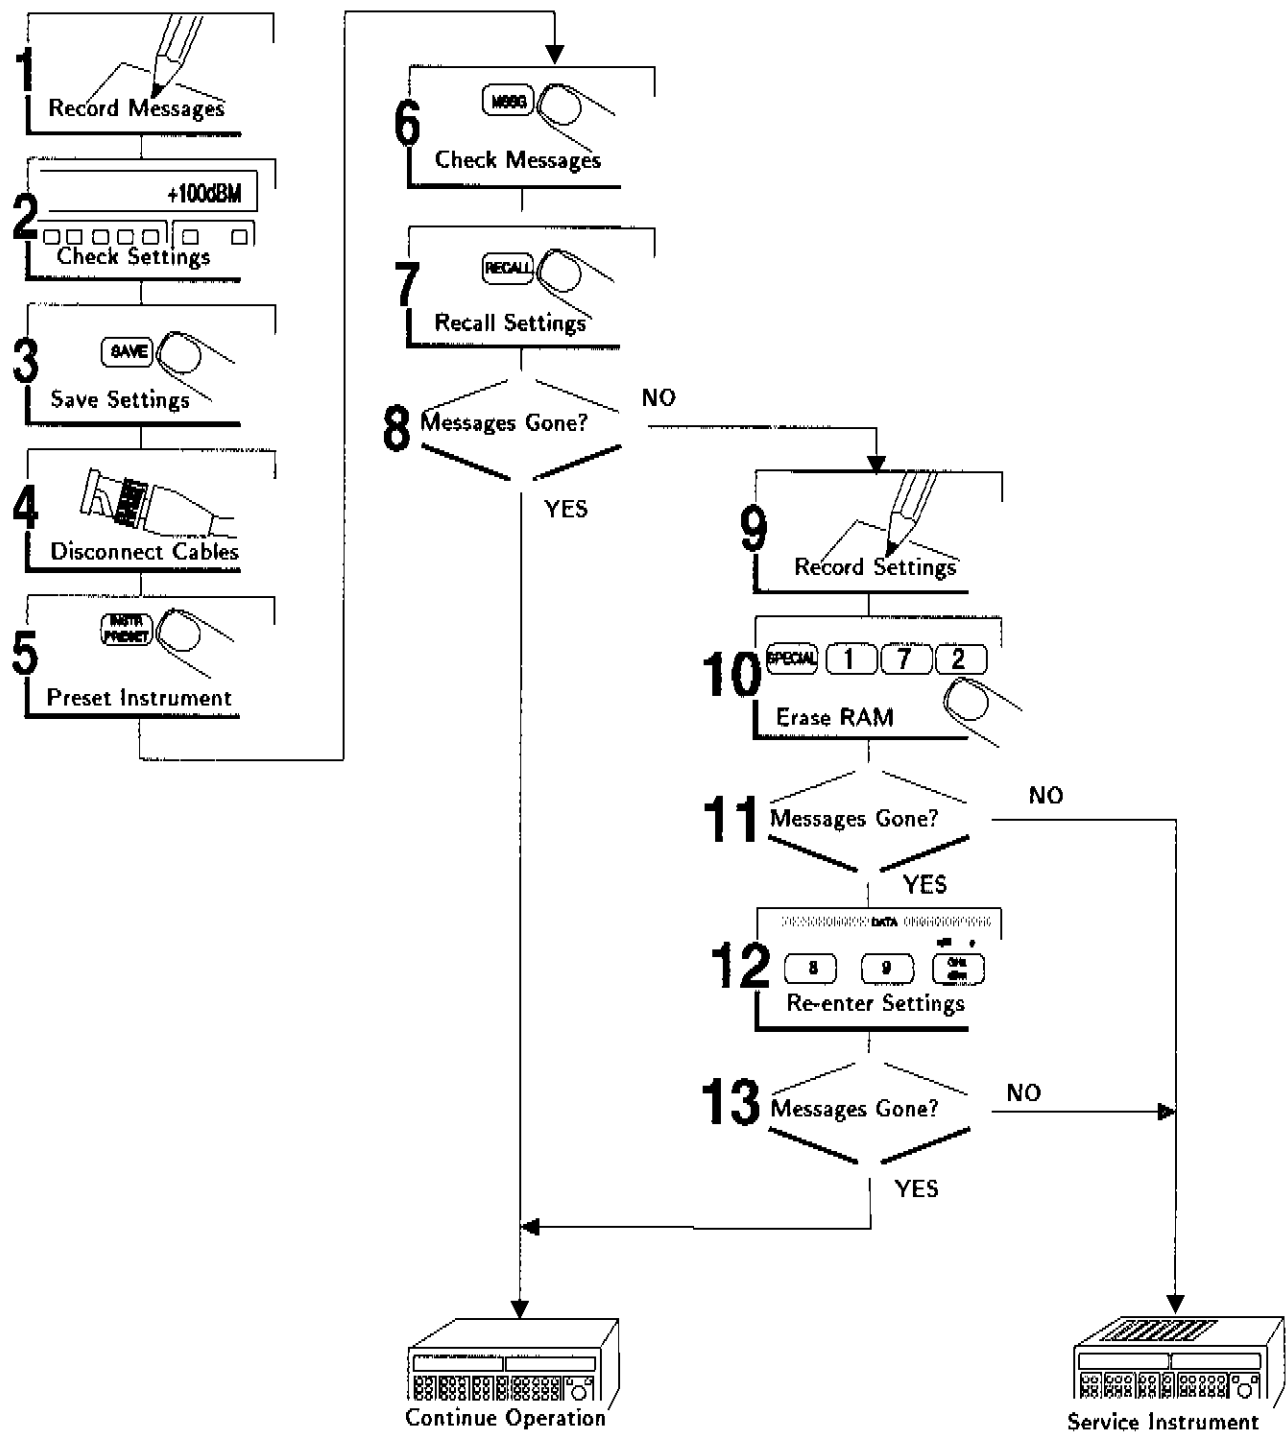

Figure 7-1. Corrective Action for Error Messages
| Hardware Failure 1  | A communications discriminator failure has been detected at power up, or detected as a result of a self-calibration or self-test. Refer to figure 7-1 for corrective action. |
| Hardware Failure 2  | A VCO failure has been detected at power up, or detected as a result of a self-calibration or self-test. Refer to figure 7-1 for corrective action.                          |
| Hardware Failure 3  | A Fractional-N failure has been detected at power up, or detected as a result of a self-calibration or self-test. Refer to figure 7-1 for corrective action.                 |
| Hardware Failure 4  | A modulation distribution failure has been detected at power up, or detected as a result of a self-calibration or self-test. Refer to figure 7-1 for corrective action.      |
| Hardware Failure 5  | An ALC failure has been detected at power up, or detected as a result of a self-calibration or self-test. Refer to figure 7-1 for corrective action.                         |
| Hardware Failure 6  | An attenuator failure has been detected at power up, or detected as a result of a self-calibration or self-test. Refer to figure 7-1 for corrective action.                  |
| Hardware Failure 7  | An audio source failure has been detected at power up, or detected as a result of a self-calibration or self-test. Refer to figure 7-1 for corrective action.                |
| Hardware Failure 8  | A reference failure has been detected at power up, or detected as a result of a self-calibration or self-test. Refer to figure 7-1 for corrective action.                    |
| Hardware Failure 9  | A doubler failure has been detected at power up, or detected as a result of a self-calibration or self-test. Refer to figure 7-1 for corrective action.                      |
| Hardware Failure 13 | A front panel failure has been detected at power up, or detected as a result of a self-calibration or self-test. Refer to figure 7-1 for corrective action.                  |
| Hardware Failure 14 | A power supply failure has been detected at power up, or detected as a result of a self-calibration or self-test. Refer to figure 7-1 for corrective action.                 |
| Hardware Failure 15 | An I/O board failure has been detected at power up, or detected as a result of a self-calibration or self-test. Refer to figure 7-1 for corrective action.                   |
| Hardware Failure 16 | A controller failure has been detected at power up, or detected as a result of a self-calibration or self-test. Refer to figure 7-1 for corrective action.                                                                                                                                     |
| Hardware Failure 18 | A frequency counter failure has been detected at power up. Refer to figure 7-1 for corrective action. Unit should have option 011. If unit was turned off for a long period (ex: 30 days), the instrument will need recalibrated. For option 011, a cable must be attached on the front panel. |
| Hardware Failure 21 | A communications discriminator out-of-lock (OOL) condition exists. Refer to figure 7-1 for corrective action.                                                                                                                                                                                  |
| Hardware Failure 23 | A Fractional-N (NF) phase-locked-loop (PLL) out-of-lock (OOL) condition exists. Refer to figure 7-1 for corrective action.                                                                                                                                                                     |
| Hardware Failure 24 | A VCO frequency-locked-loop (FLL) out-of-lock (OOL) condition exists. Refer to figure 7-1 for corrective action.                                                                                                                                                                               |
| Hardware Failure 25 | A VCO phase-locked-loop (PLL) out-of-lock (OOL) condition exists. Refer to figure 7-1 for corrective action.                                                                                                                                                                                   |
| Hardware Failure 26 | A fast controller failure has been detected at power up, or detected as a result of a self-calibration or self-test. Refer to figure 7-1 for corrective action.                                                                                                                                |
| Hardware Failure 27 | An audio source out-of-lock (OOL) condition exists. Refer to figure 7-1 for corrective action.                                                                                                                                                                                                 |
| Hardware Failure 28 | A reference out-of-lock (OOL) condition exists. Refer to figure 7-1 for corrective action.                                                                                                                                                                                                     |
| Hardware Failure 31 | A ROM failure has been detected at power up, or detected as a result of a self-calibration or self-test. Refer to figure 7-1 for corrective action.                                                                                                                                            |
| Hardware Failure 32 | A ROM failure has been detected at power up, or detected as a result of a self-calibration or self-test. Refer to figure 7-1 for corrective action.                                                                                                                                            |
| Hardware Failure 33 | A ROM failure has been detected at power up, or detected as a result of a self-calibration or self-test. Refer to figure 7-1 for corrective action.                                                                                                                                            |
| Hardware Failure 34    | <p>A ROM failure has been detected at power up, or detected as a result of a self-calibration or self-test. Refer to figure 7-1 for corrective action.</p> <p>A voltmeter failure has been detected at power up, or detected as a result of a self-calibration or self-test. Refer to figure 7-1 for corrective action.</p> <p>A RAM failure has been detected at power up, or detected as a result of a self-calibration or self-test. Refer to figure 7-1 for corrective action.</p>                                                                                                                                                                                                                                                                                                                                       |
| Calibration Error 1    | <p>A condition occurred where invalid level calibration data resides in either the Output or the Attenuator modules. Follow the external calibration procedures outlined in figure 7-1.</p> <p>At some time during the calibration or self-test, a condition occurred where some hardware was unable to be calibrated. Fix the hardware and re-calibrate. Refer to figure 7-1 for corrective action. This error message will always be accompanied by other error messages.</p> <p>A sensor indicates that inside temperature has varied <math>\pm 10^{\circ}</math> Centigrade (<math>\pm 18^{\circ}</math> Fahrenheit) from where the temperature was when the instrument was last calibrated. A re-calibration by activating Special Function 171 may be necessary for the instrument to maintain its specifications.</p> |
| User Memory Cleared    | <p>A memory failure has been detected, all battery backup memory is lost. Refer to figure 7-1 for corrective action.</p> <p>A reverse power condition was detected at the RF Output. (Disconnect the affected output from any external equipment and re-enter the key sequence that originally resulted in the error. If an error is still detected by the instrument, a reverse power problem still exists.)</p>                                                                                                                                                                                                                                                                                                                                                                                                            |
| Transient Error 1  | A transient communications discriminator out-of-lock (OOL) condition occurred. Refer to figure 7-1 for corrective action.              |
| Transient Error 3  | A transient Fractional-N (NF) phase-locked-loop (PLL) out-of-lock (OOL) condition occurred. Refer to figure 7-1 for corrective action. |
| Transient Error 5  | A transient Automatic-Level-Control (ALC) out-of-lock (OOL) condition occurred. Refer to figure 7-1 for corrective action.             |